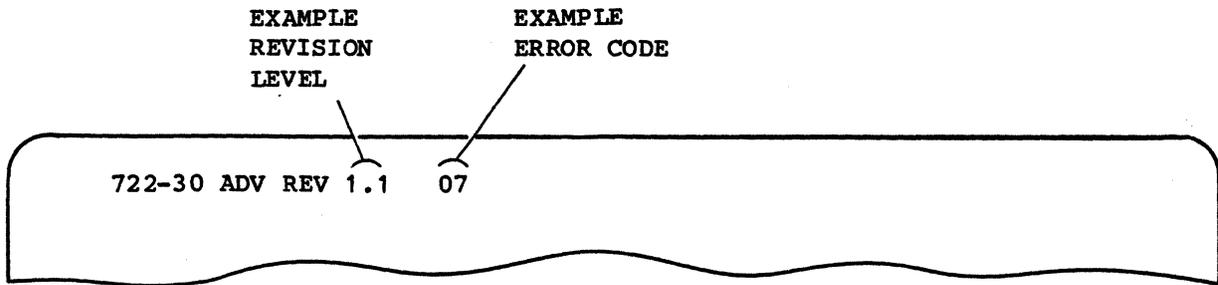

Figure 6-1. Location of a Displayed Error Code
- The revision level of ADV, ADDS, or ANSI emulation displays. If a memory error was detected, an error code appears with the revision level message (figure 6-1).